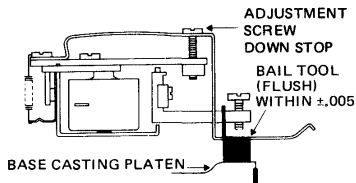

FIGURE 3 HEAD LOAD ACTUATOR DOWN STOP ADJUSTMENT
- d. Adjust down stop so that the top of Head Load Bail is flush with top of tool within $\pm .005''$ at track 76. Reference Figure 3.